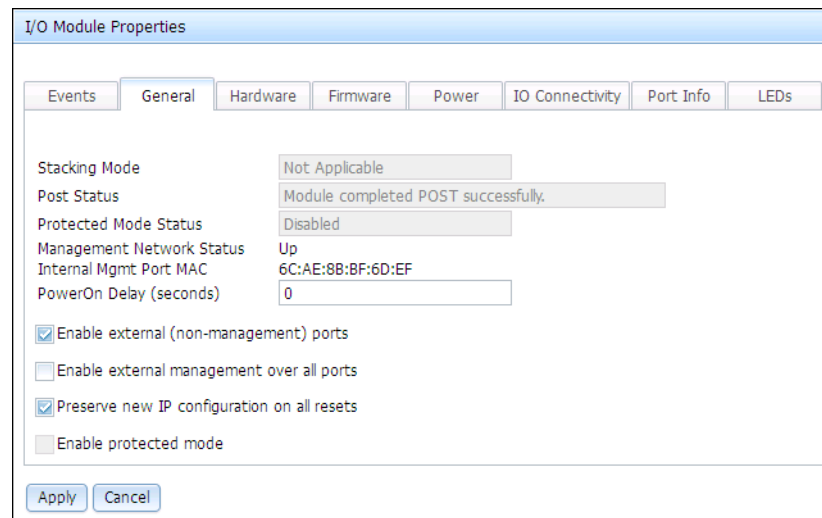

Figure 6-3 I/O module properties
- ii. Click the I/O module that you want to identify. In our case, we click **IO Module 1**. The window that is shown in Figure 6-3 opens.